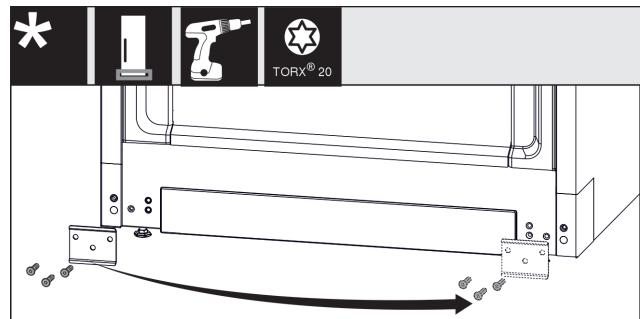

Fig. 15
- ▶ Unscrew the plate Fig. 15 (1), move it to the other side and screw it back on.